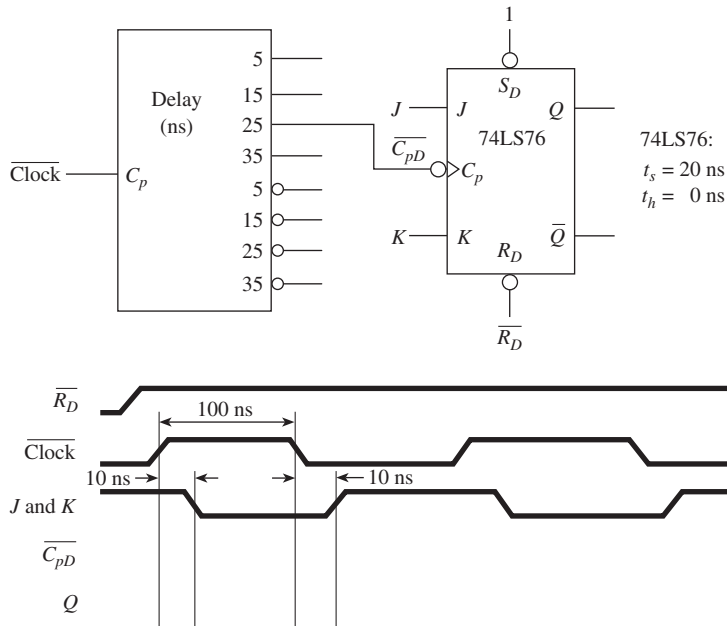

Figure P6
6. Sketch the output at $\overline{C_{pD}}$ and Q for the flip-flop circuit shown in Figure P6. (Ignore propagation delays in the 74LS76.)